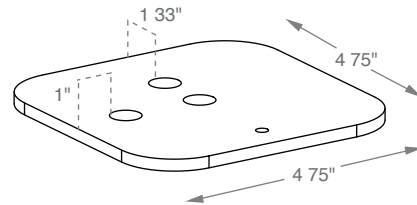

Figure 4.2 Bolt-Through Plate
- Three holes in the undersurface plate of the Bolt-Through Mount accommodate any grommet hole placement relative to an undersurface obstruction, such as an end panel or wall (Figure 4.2). The plate can be rotated to shorten the amount of plate that extends beyond the grommet hole.